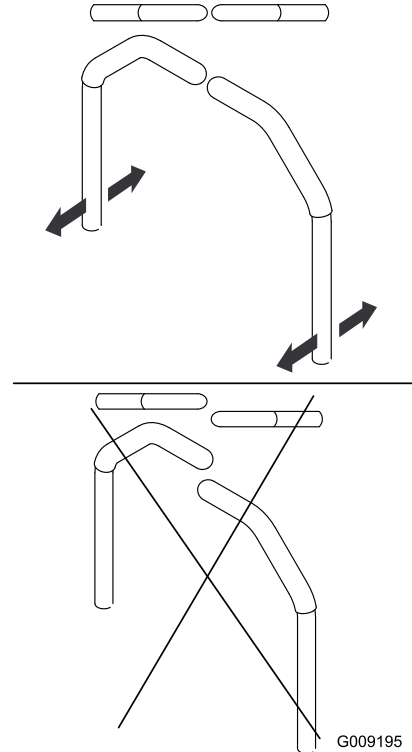

Figure 52
9. Align the levers in the front-to-rear position by bringing the levers together to the NEUTRAL position, and slide them until they are aligned, then tighten the bolts (Figure 52).